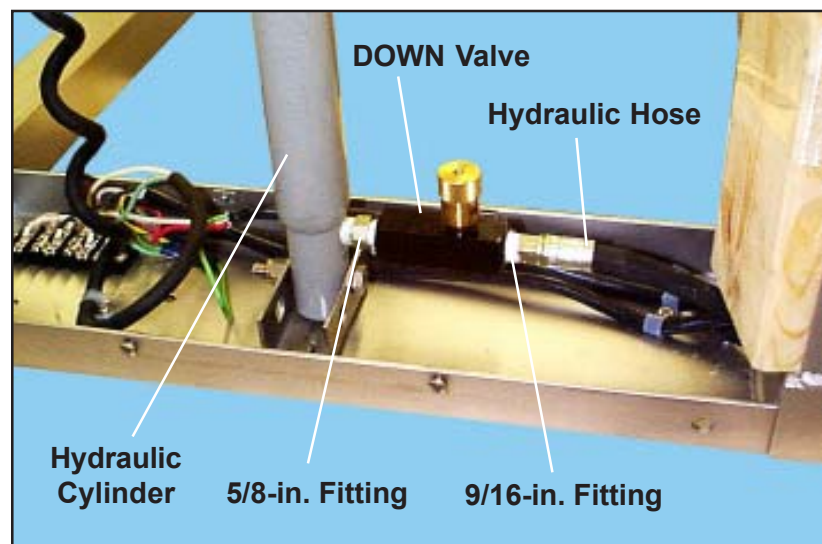

Figure 38. DOWN Valve Connections
3. Pack paper towels or shop rags under the **DOWN** valve (Figure 38) connections to catch any spillage.
1. Orient the new **DOWN** valve in the tray as shown in Figure 38. **Note:** The brass regulator knob is not centered on the valve body. The valve should be oriented so that the *short* end of the black valve body is toward the hydraulic hose.
3. Pack paper towels or shop rags under the **DOWN** valve (Figure 38) connection to catch any spillage.
4. Connect the new hydraulic hose to the **DOWN** valve with the 9/16-in. fitting (Figure 38).